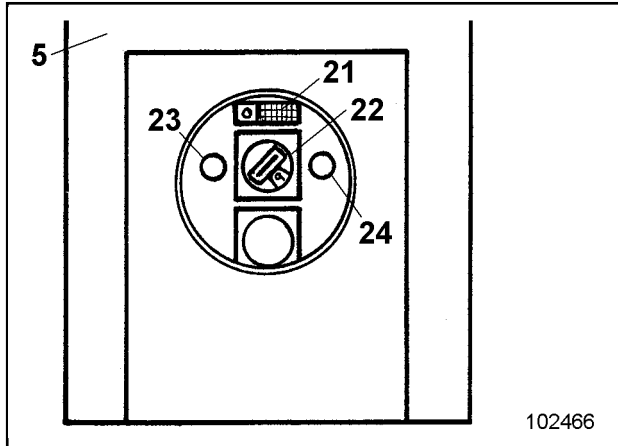
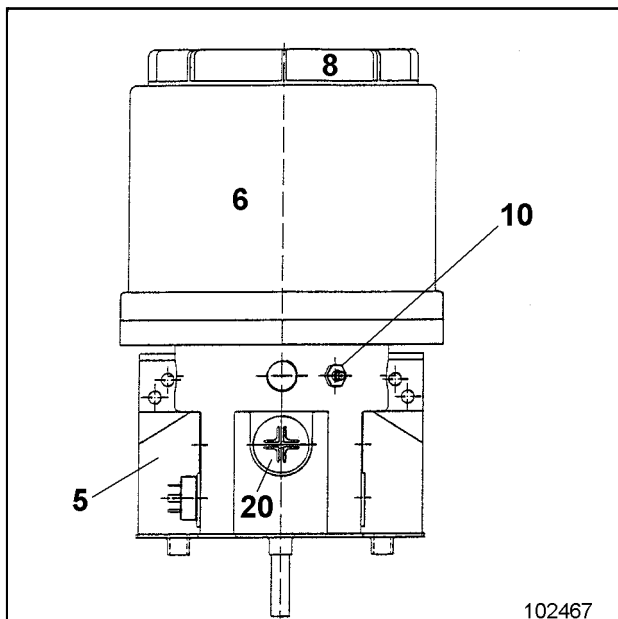

Fig. 1
Fig. 2
When the electrical system is switched on with the key-switch, the indicator lamp (23, Fig. 1) lights up and the lubricating system is activated. The indicator lamp (23) is visible after removing cover (20, Fig. 2).
All lubricating points connected to the system are greased at regular intervals. During the greasing cycle, indicator lamp (24, Fig. 1) is lit up.